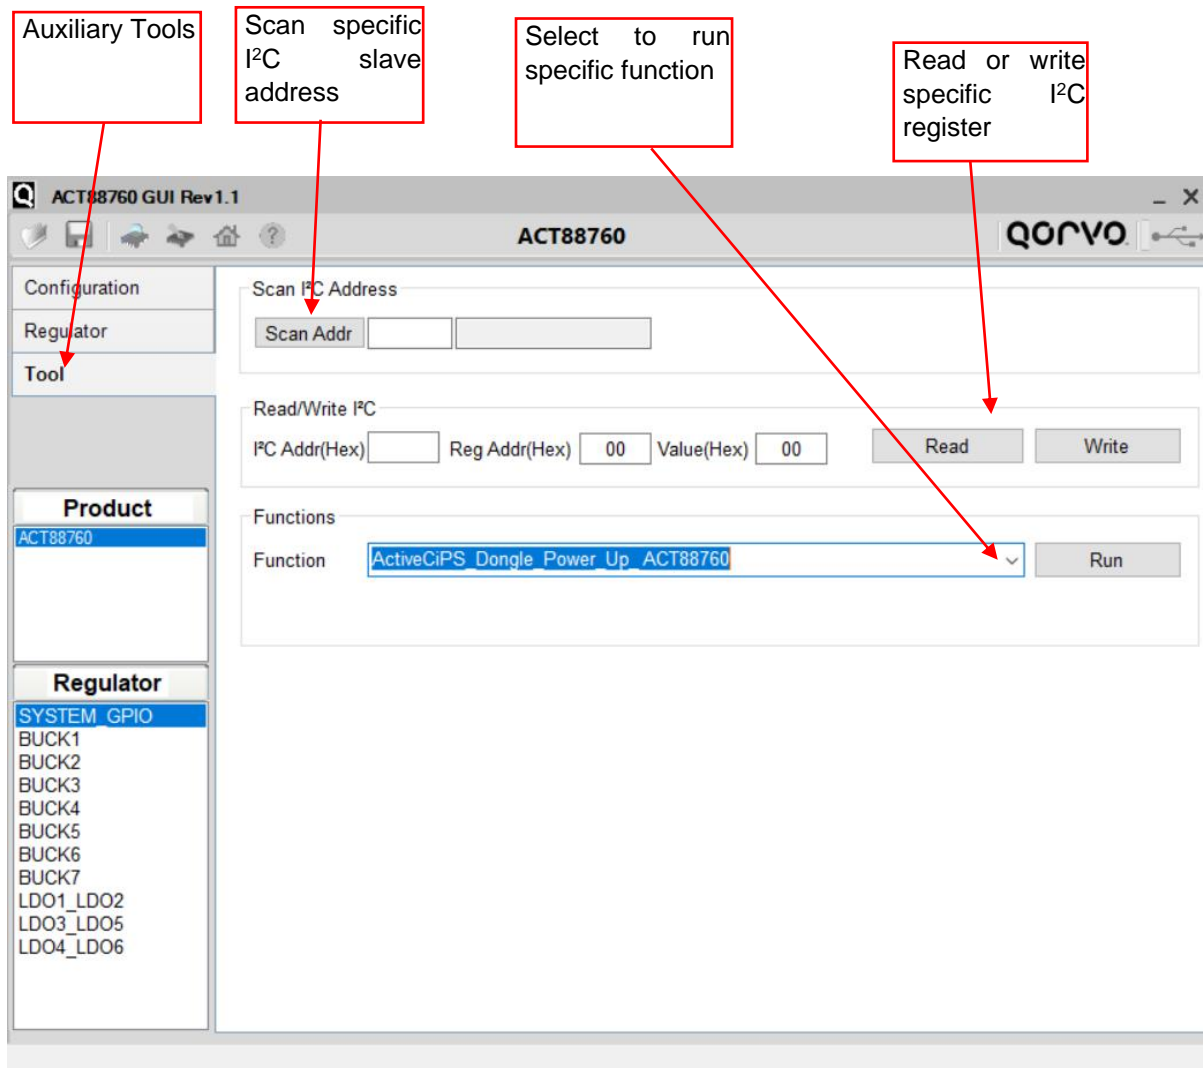

Figure 3: ACT88760GUI Auxiliary Tool and Functions
The ACT88760 EVK GUI integrates auxiliary tools to allow the user to read or write a single I²C register using Qorvo's USB-to-I²C dongle or to reprogram the IC's Non-Volatile Memory (NVM) registers with Qorvo's ActiveCiPS™ Dongle. Select the "Tool" tab to navigate to the Auxiliary Tool functions screen as below in **Figure 3**. There are 3 functions available in this mode:
1. On the GUI, navigate to the “Tool” tab, then select and run the “ActiveCiPS_Dongle_Power_Up_ACT88760” function to power the ACT88760 EVK or socketed board from the ActiveCiPS dongle. Refer to Figure 3. Use DMM to measure output voltage make sure device is started properly.